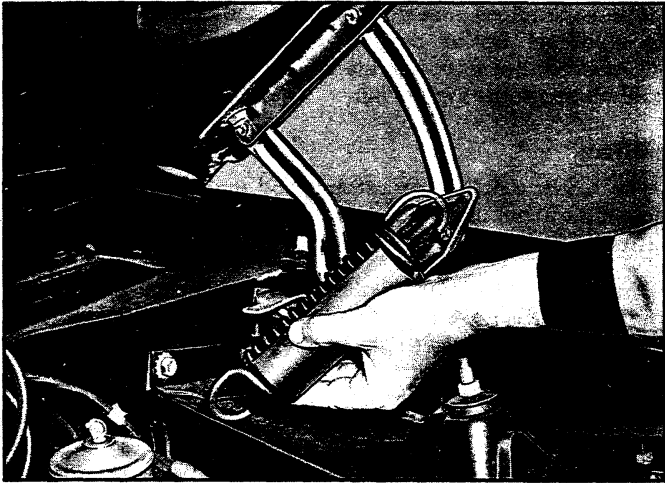

Fig. 28 - Hood Spring Removal
2. Open hood fully while still holding spring (with tool installed) in hand; when hood is near fully opened position, spring may be removed as shown in Figure 28.